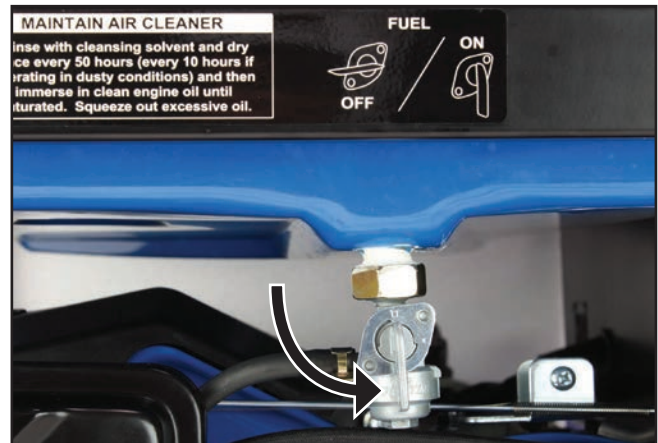

Figure 22 – Fuel Shutoff Valve in the ON Position
3. Move the fuel shutoff valve to the **ON** position (see *Figure 22*).
5. Move the fuel shutoff valve to the **ON** position (see Figure 22).